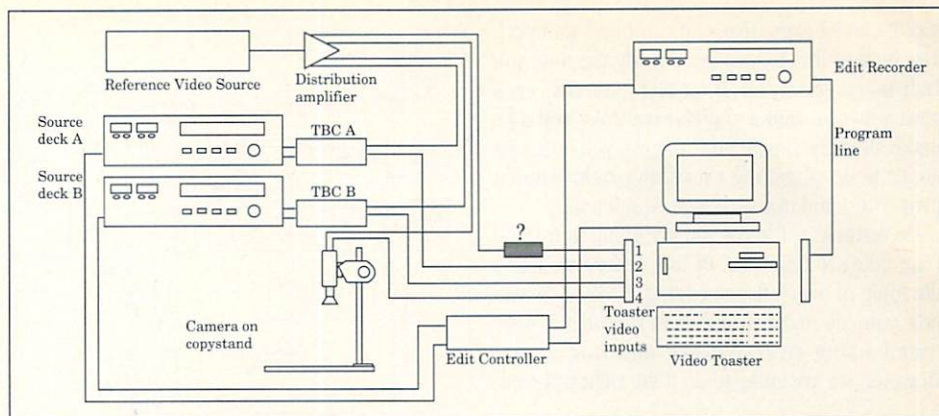

Figure 1— In a match-frame editing Toaster system, the video source for input No. 1 demands special attention.
We will start by describing a fairly generic system, and I'll keep it minimal. For our purposes, we will use a Toaster, an edit controller, three tape machines (two source decks and one edit recorder), a camera on a copy stand and an extra video source, which we will leave undefined for the moment. See Figure 1.
In the drawing, we show a distribution amplifier that splits and shares the main genlock signal, which we call the *system reference video*, with the genlock inputs of all devices in the system, including Toaster input No. 1. The Toaster listens to the signal on input No. 1 and uses it as a timing reference for all of its internal operations. (If you are not using a Toaster 4000 board, it is desirable, for a reason we will describe later, for the video source on input No. 1 to have separate horizontal (H) phase and subcarrier controls. This is shown by the shaded box in Figure 1.)